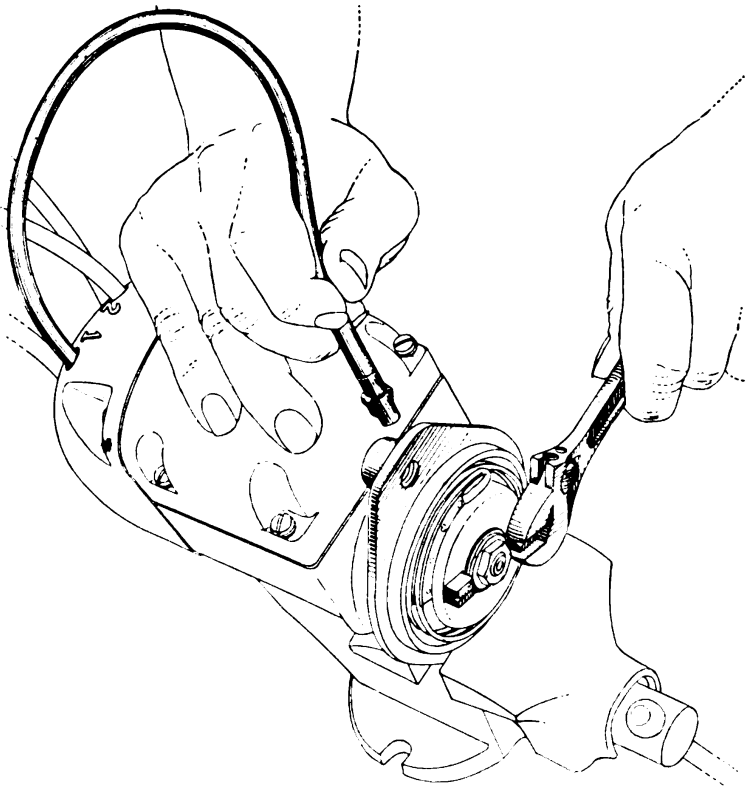

Fig. 46. Magneto Timing
7. Pull downward on brake hub until No. 1 crank is up. When No. 1 crank is at top dead center a mark (D) will be seen on flywheel through inspection hole in clutch housing.
8. Hold magneto in an upright position and hold spark plug wire leading from hole marked No. 1 on distributor about $\frac{1}{8}$ " from aluminum frame of the magneto shown in Fig. 46.
9. Keep turning magneto with a wrench tripping the impulse shown in Fig. 46 until a spark jumps the gap between the wire and the frame. Be very careful to hold the wrench and magneto firmly so impulse will not move beyond the point where it trips and spark occurs, as it has a tendency to do this.